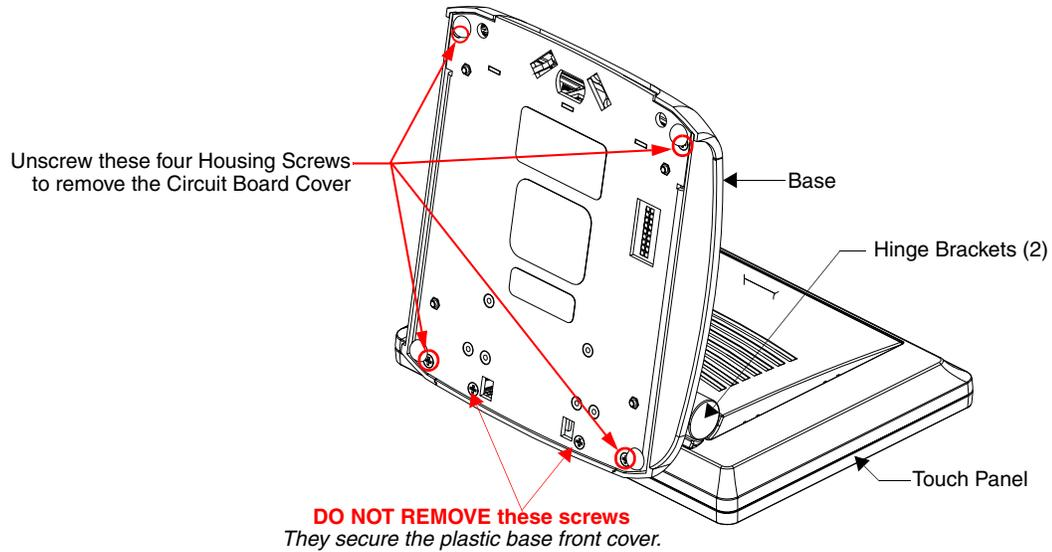

FIG. 15 Location of the attachment screws underneath an NXT-CV7 panel base
2. Gently place the touch panel LCD facedown onto a soft cloth to expose the under-side of the base (FIG. 15) and prevent scratching of the LCD. Tilt the base forward so that both the bottom surface and Housing Screws are easily accessible.
7. Insert and secure the four Housing Screws (using a grounded Phillips-head screwdriver) in their respective locations, as shown in FIG. 15 on page 16.